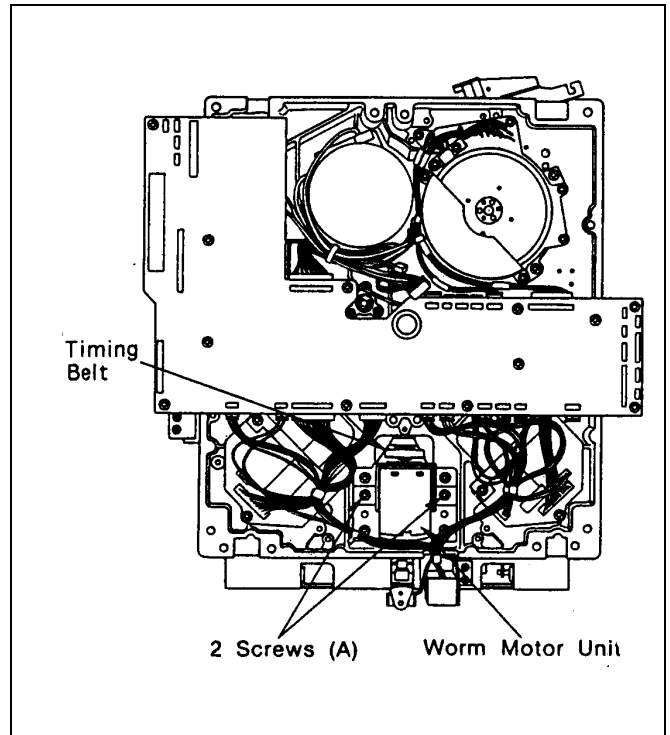

Figure 7-23-1 Worm Motor Unit Removal
4. Unscrew 2 screws (A) and remove Timing Belt and Worm Motor Unit as shown in figure 7-23-1.